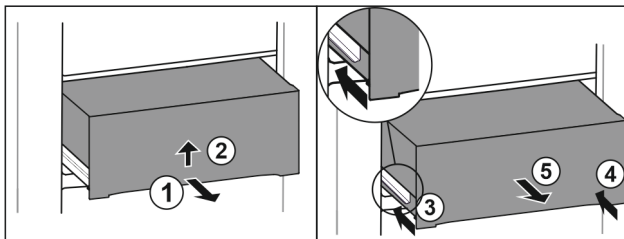

Fig. 42
- ▶ Pull out drawer half-way. Fig. 42 (1)
- ▶ Lift the drawer from the bottom. Fig. 42 (2)
- ▶ Insert left rail. Fig. 42 (3)
- ▶ Insert right rail. Fig. 42 (4)
- ▶ Remove drawer to the front. Fig. 42 (5)